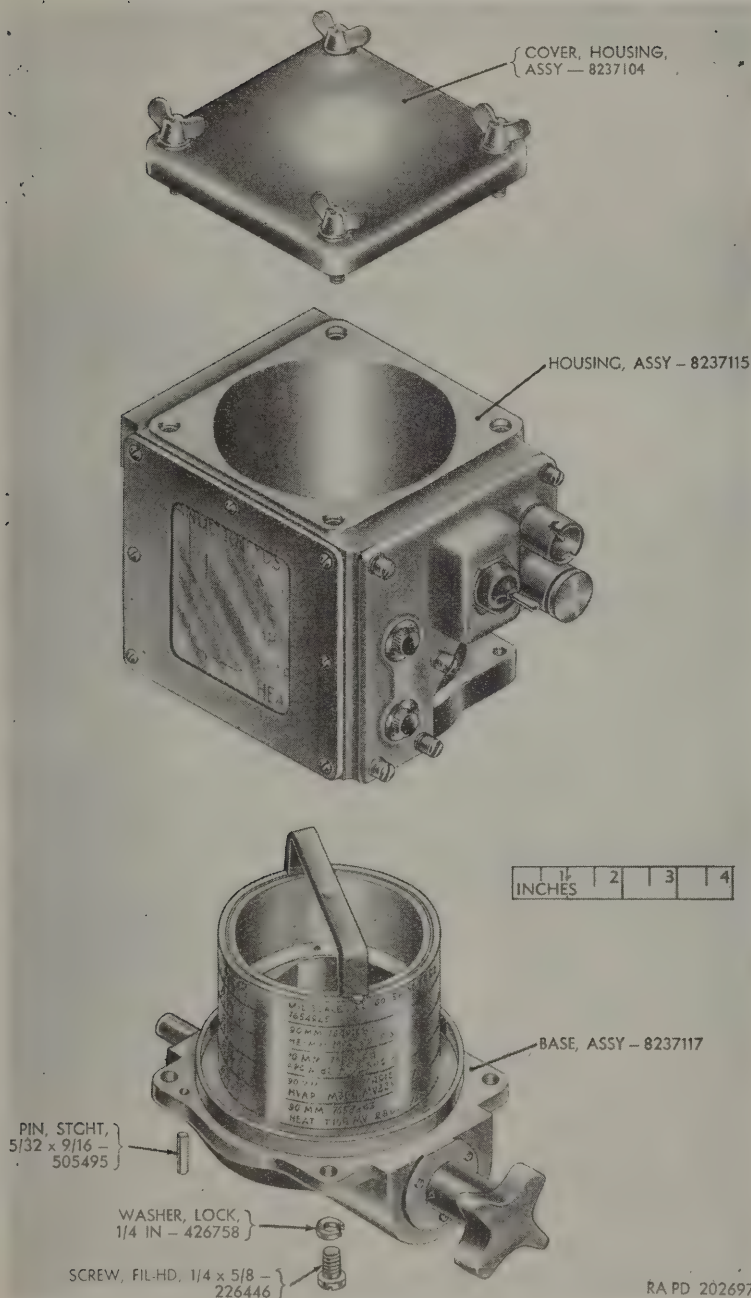

Figure 6. Range drive T25—partial exploded view.
Unscrew the four thumbscrews sufficiently to permit removal of the cover assembly (fig. 6). These screws are provided with
The base assembly (fig. 6) is removed from the housing assembly by removing the four attaching screws and lock washers. Drive the two locating dowel pins from the base assembly.
a. Clean the joint surfaces, and place the base assembly (fig. 6) in position with the knob end under the lamp cover assembly and insert the two  $\frac{5}{32} \times \frac{9}{16}$  straight pins.
Clean the joining surfaces and screw the cover assembly (fig. 6) in place on the housing assembly by means of the four thumb-screws.